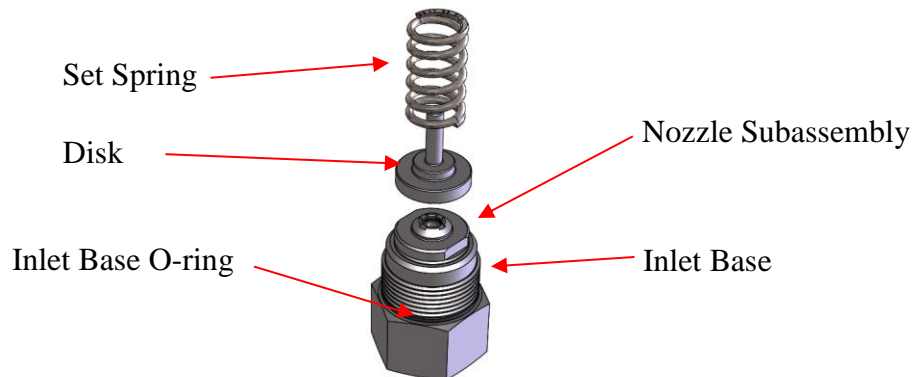

Figure 16: Inlet Base Components
3. Remove the set spring and discard the disk. See Figure 16.
4. Remove and discard the inlet base o-ring. See Figure 16.